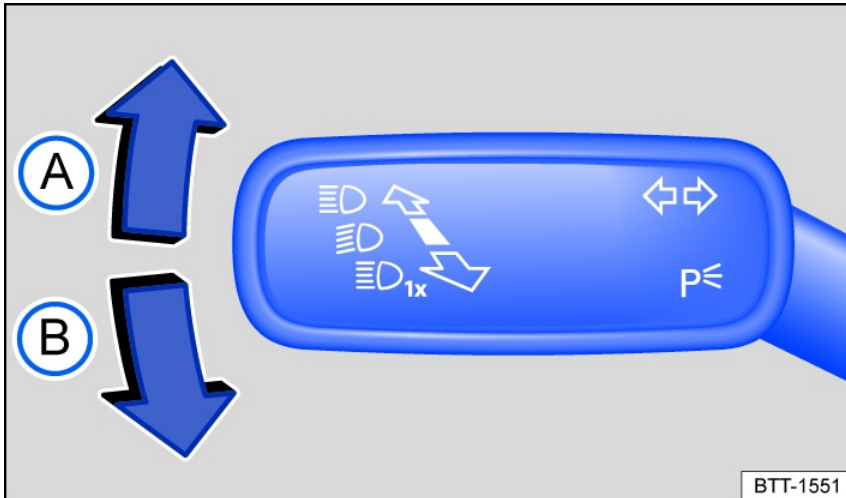

Fig. 79 On the left side of the steering column: turn signal and high beam lever.
- Move the turn signal and high beam lever from the center position to the following position *fig. 79*: